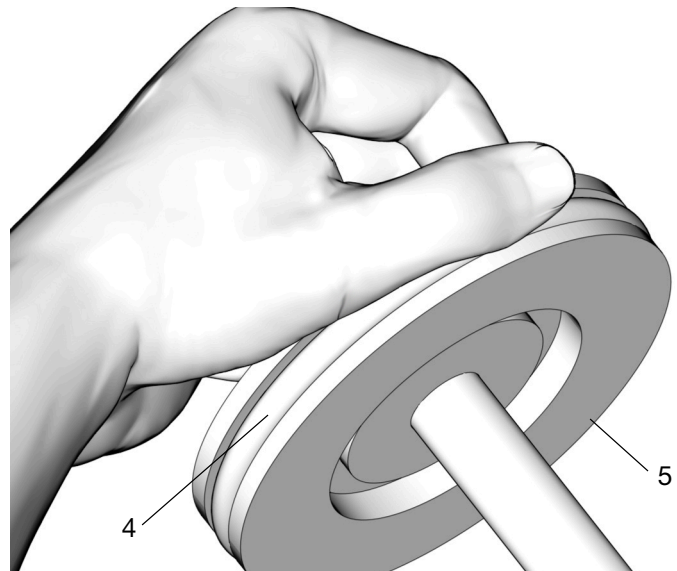

FIG. 32
8. Apply a thin layer of grease to the piston seal (4). Install the seal around the piston (5), as shown in FIG. 32.